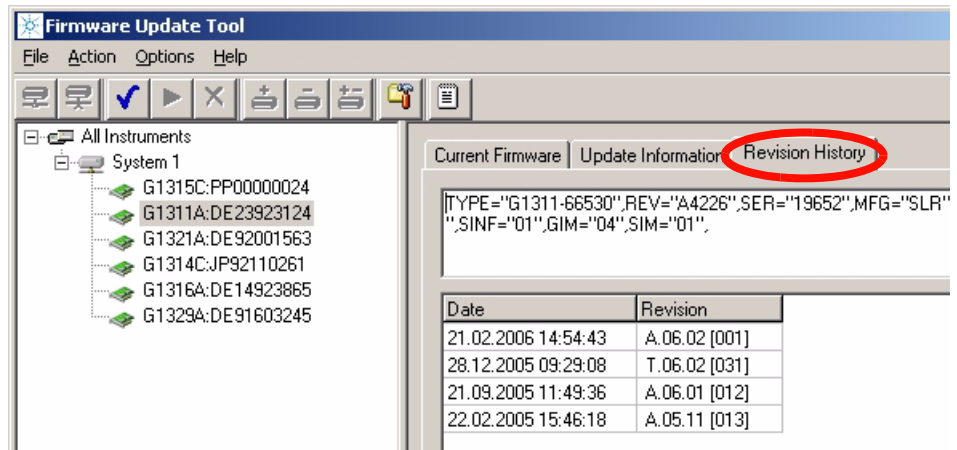

Figure 30 Specific module is selected - Revision History Information screen
- 3 Select the **Revision History** tab. This window shows details on the used main board and the update history in the module, see Figure 30.